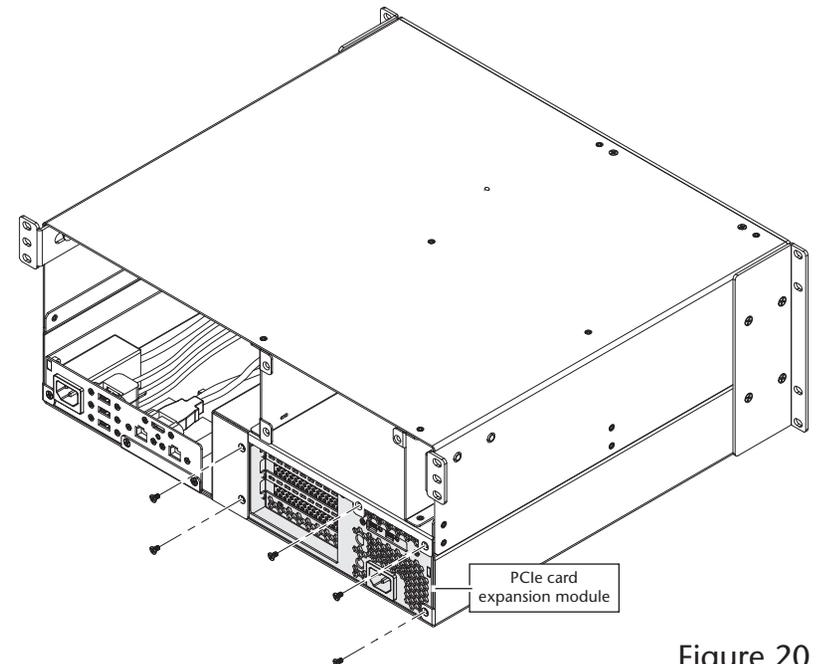

Figure 20
4. Using a Phillips screwdriver, remove and set aside the five screws securing the PCIe card expansion module to the rackmount enclosure (Figure 20).